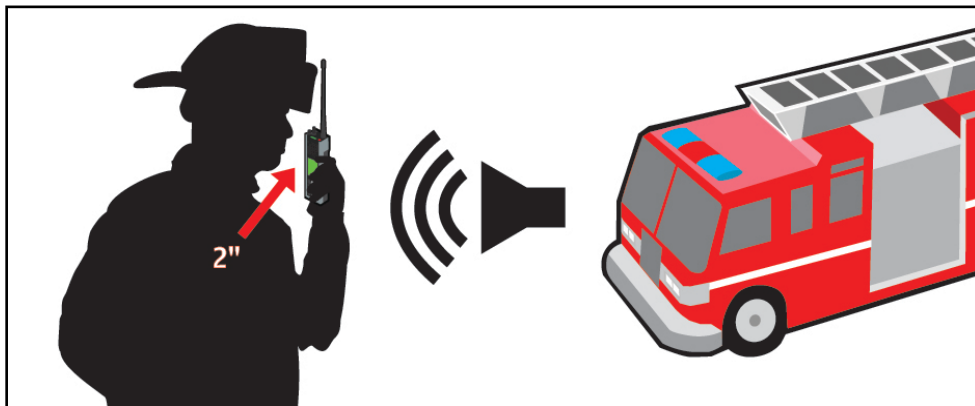

Figure 10-8: Using the Noise Cancellation Feature
- Talk within two (2) inches of primary microphone (see Figure 10-8).
- If possible, face the noise source when talking into the radio (see Figure 10-8).